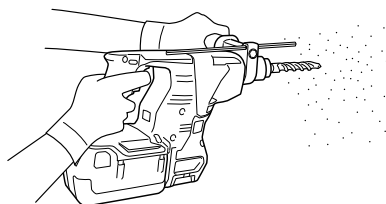

Fig. 17
- (1) Mount the drill bit.
- (2) Pull the trigger switch after applying the drill bit tip to the drilling position. (Fig. 17)
- (3) Pushing the rotary hammer forcibly is not necessary at all. Pushing slightly so that drill dust comes out gradually is just sufficient.
**When the drill bit touches construction iron bar, the bit will stop immediately and the rotary hammer will react to revolve. Therefore please grip the side handle and handle tightly as shown in Fig. 17.**